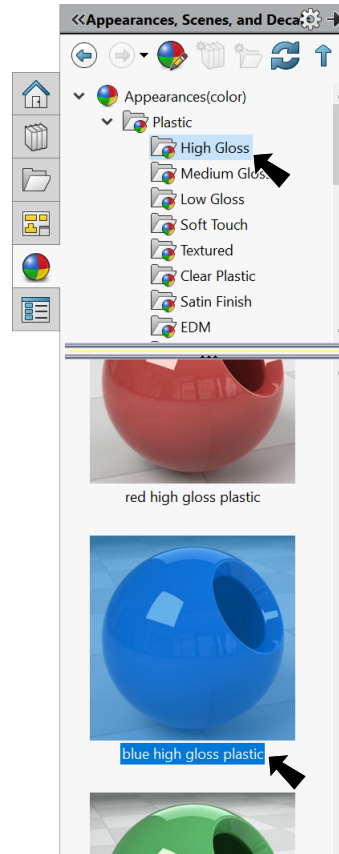

Fig. 17
Step 2. In the Appearances Task pane, expand **Plastic**, click **Clear Plastic** and in the lower pane select **plue high gloss plastic**, Fig. 17.